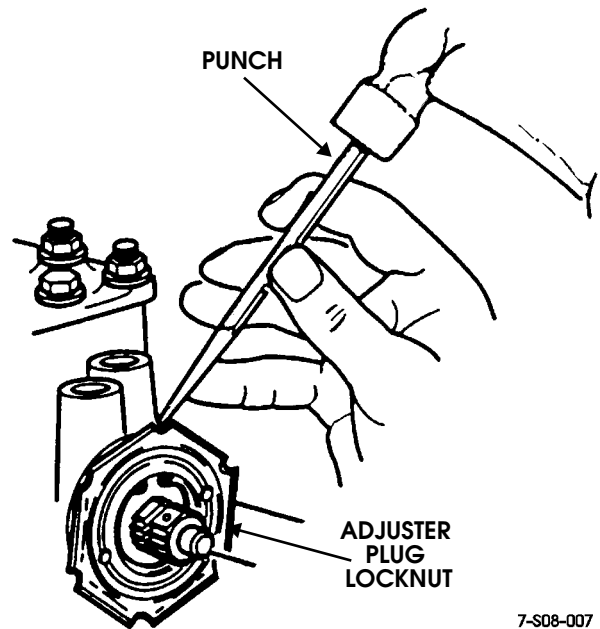

Figure 8-33: Adjuster Plug Locknut Removal
1. Remove adjuster plug locknut with punch and hammer (Figure 8-33).